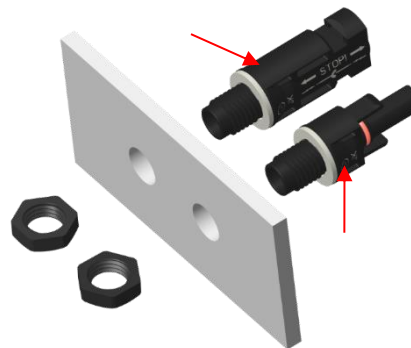

Figure 15
- ✧ 在公/母面板连接器插入钻孔前，请确保已安装防水垫圈，且防水垫圈安装在墙板的外侧 (如图 15)。
Please ensure seal gasket is located on the insulation before mounting the plastic insulations through the bore. In mounting position, the seal gasket must lie even on the outside of the mounting surface (Fig.15).